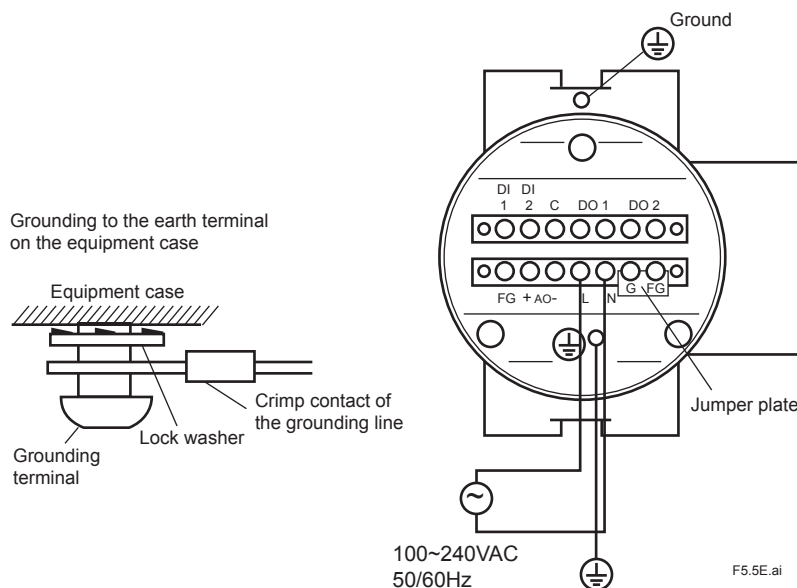

Figure 5.5 Power and Grounding Wiring
- (1) Keep the ground resistance of 100Ω or less (JIS Class D grounding).
- (2) When connecting the ground wiring to the ground terminal of the equipment case, be sure that the lock washer is in contact with the case surface (see Figure 5.5.).
- (3) Ensure that the jumper plate is connected between the G terminal and the FG terminal of the equipment.
- (4) The size of external ground screw thread is M4. Each cable should be terminated corresponding crimp-on terminals.